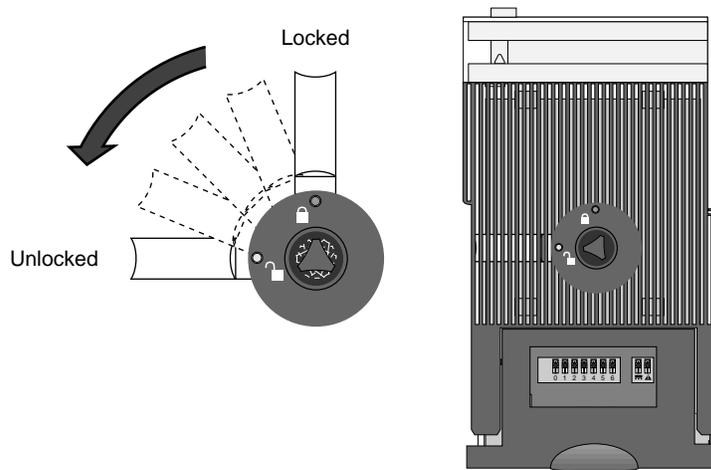

Figure 33. Unlocking the HDDA drive drawer
3. Locate the HDDA drive drawer key and unlock the drive drawer by turning the key counter-clockwise, as shown in Figure 33.